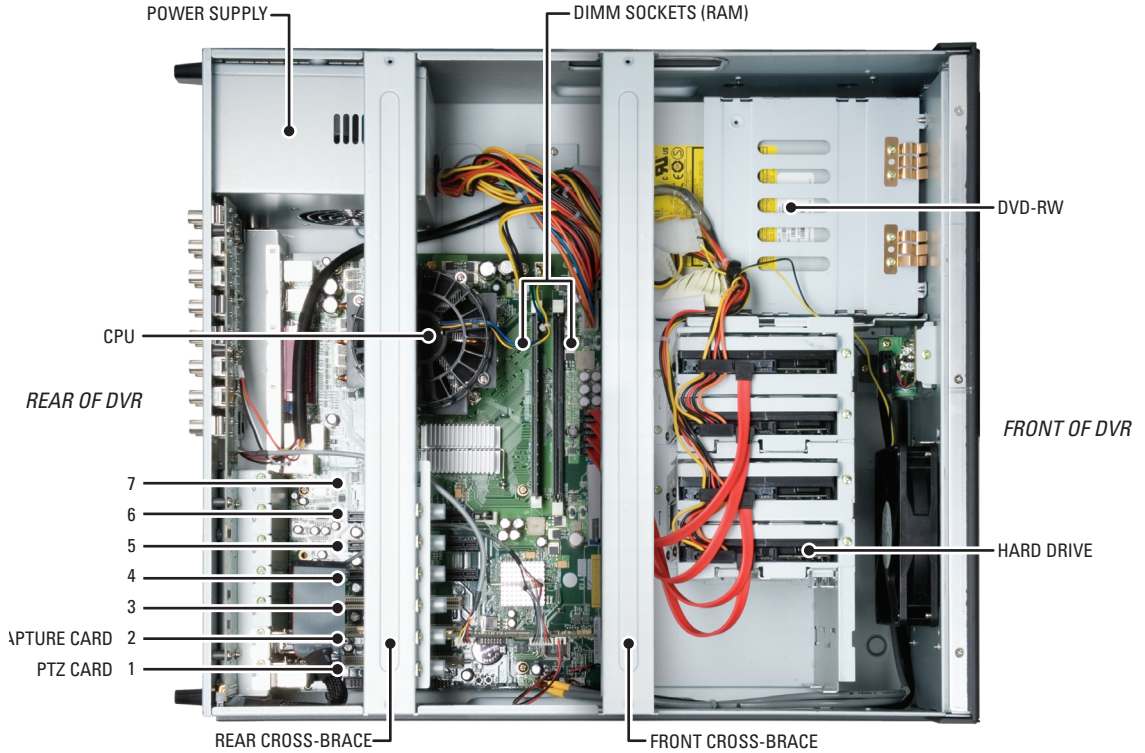

Figure 6. DX8100 Interior
- Carefully remove the chassis cover by sliding it back and up. Set aside the cover. Figure 6 illustrates the interior of the DX8100.
Figure 6 shows the location of your DX8100 Series DVR's major components. Certain cables and components have been omitted from the illustrations in this manual for the purpose of clarity.